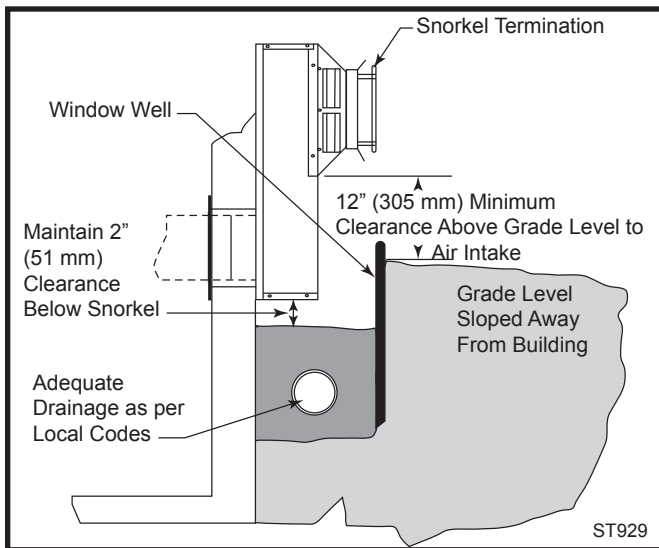

Fig. 39 Below grade installation.
Consider locating the appliance in a place where there will be no interference with wall studs, electrical wiring, conduit, plumbing pipe or other obstructions. The termination should be located at least 12" (305 mm) (Fig. 39) above grade, remain above the snow line in geographical areas that accumulate snow and be away from traffic areas such as walkways if it is less than 7' (2.1 m) high. Refer to Pages 11, 12, Figures 11, 12 for more detail.
7. If a wall thimble is used, push the pipe (which is connected to the appliance) carefully through the wall thimble until the DIRECT-TEMP pipe becomes fully engaged with the horizontal termination. If no thimble is used, place the Trim Plate (TP) on the DIRECT-TEMP pipe. Carefully push the DIRECT-TEMP pipe through the wall until fully engaged with the horizontal termination. Secure the trim plate to the wall.
NOTE: If a vertical rise is necessary on the exterior side of the building, a 14" (356 mm) and 36" (914 mm) Snorkel Termination (ST) is available. Follow the installation procedures for horizontal terminations. If the snorkel termination is to be located below grade, a window well is recommended with adequate and proper drainage as per local codes. Leave 2" (51 mm) clearance below snorkel to prevent water from entering the snorkel termination. Do not enclose the snorkel within a wall or other type of enclosure and **do not back fill**. Ensure that grade level slopes away from the building. (Fig. 39)